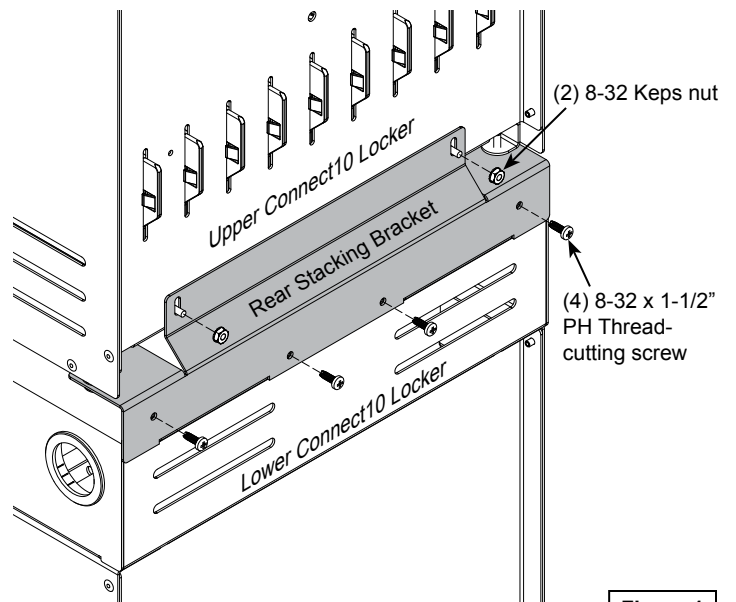

Figure 1
2. Place the rear stacking bracket between the two lockers as shown. **Figure 1.** Be sure the two bracket tabs are hooked into the upper vent slot on the lower locker.
4. Install (2) 8-32 Keps nuts and (4) 8-32 x 1-1/2" PH Thread-cutting screws, but do not tighten completely.